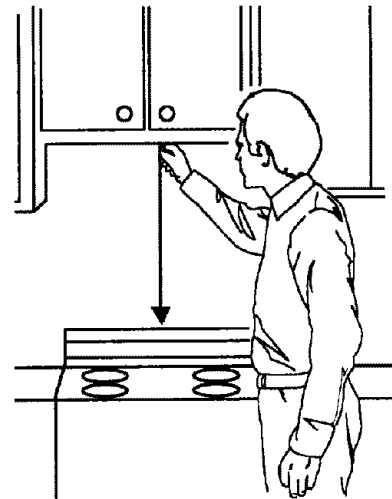

Figure 22
1. Using a plumb line and (metal) measuring tape, find and mark the vertical center line on the back wall, as in Figure 22.
**NOTE:** Be sure the minimum width is 30 inches and the distance from the top of the wall template to the range or counter top is at least 30 inches. See Figure 22.